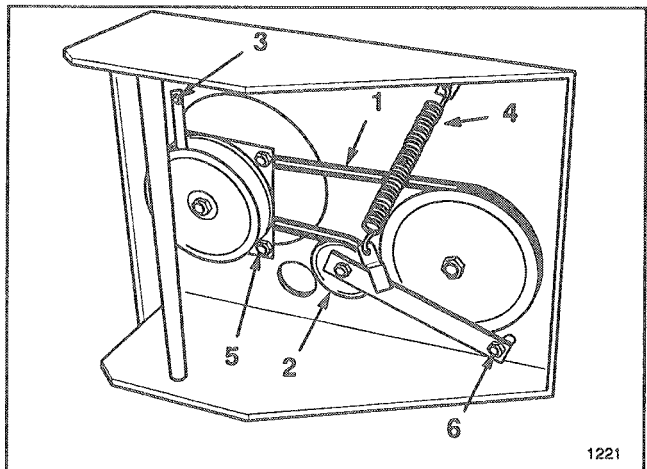

Figure 21
2. Disconnect in-line wire connector from wiring harness to electric clutch (Fig. 21).
3. Remove left front engine mounting bolt securing clutch retainer to frame. Unhook retainer from clutch and remove retainer (Fig. 21).
4. Unhook tension spring from side of frame (Fig. 21).
7. Install belt around idler pulley (Fig. 21).
8. Torque pivot bolt to 35-40 ft-lb. Install tension spring between idler arm and frame bracket (Fig. 21).
1. To adjust clutch, tighten or loosen locknuts on flange studs (Fig. 21).